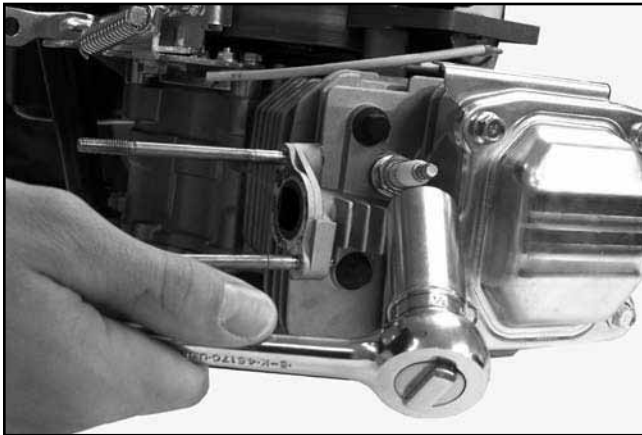

Figure 8-32. Removing Spark Plug.
1. Remove the spark plug from the cylinder head. See Figure 8-32.